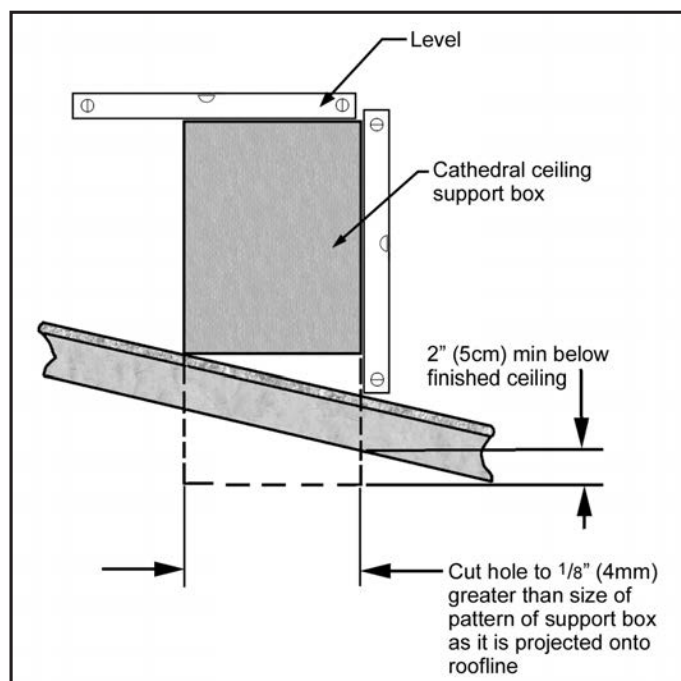

Figure 39: Cathedral Ceiling Support Box Leveling.
4. Lower the "Support Box" through the hole in the roof until the bottom of the "Support Box" protrudes at least 2 inches (5 cm) below the ceiling. Align the "Support Box" both vertically and horizontally with a level as shown in Figure 39. Temporarily tack the "Support Box" in the place through the inside walls and into the roof sheathing.